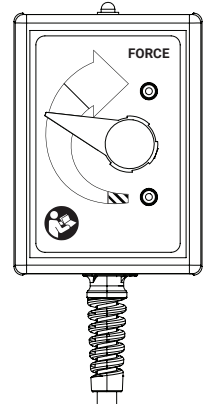

Figure 7
3. Use the pendant to control the tailing force limit*. (Fig.7) Increase or decrease the tailing force limit by turning the dial. The green zone is for continuous operation, while the yellow zone should only be used intermittently when extra force is required.